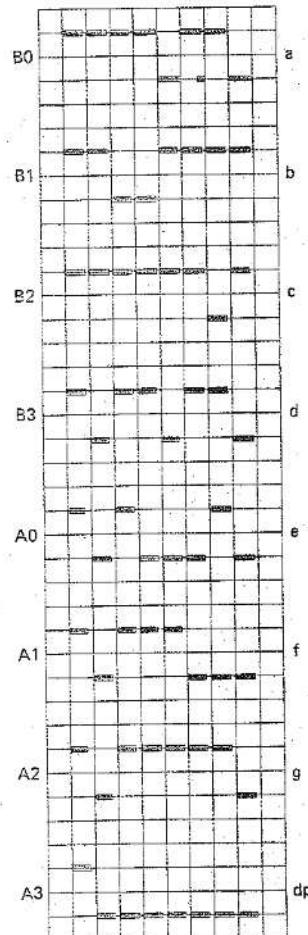

FIGURE 26-3.
- 7. See Figure 26-3. The low blanking codes are present between the actual seven-segment codes. The reason the lows on the seven-segment codes appear larger than the highs is that the low blanking codes on each side of them look like part of the segment code.